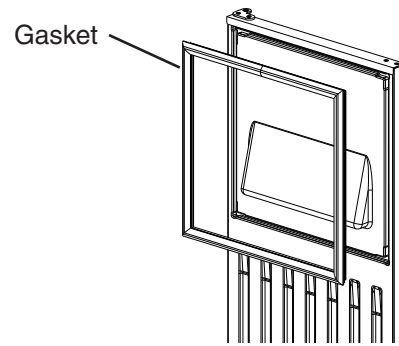

Fig. 10
- 8) Remove the gasket from the door. See Fig. 10.